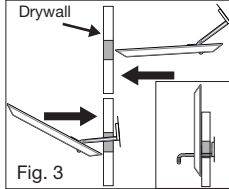

Fig. 3
11. Once the bar is completely inside the wall, pull outward/back on the flange and ensure the bar tilts upward behind the wall and straightens upright. The bar should be resting on the back side of the wall and pointing upward with the longest side at the top. **(Fig. 3)**